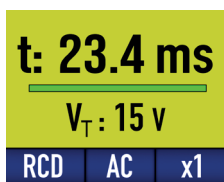

Fig. 4
- 4.1. A green bar indicates the trip time and contact voltage are within specification (Fig 4).